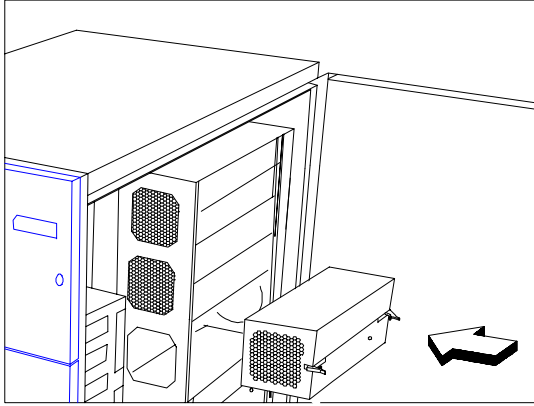

Figure C-3 Installing a Power Supply Module
5. Firmly hold the power supply and align it with a compartment on the power supply rack. Pressing the holding clips on the sides, push back the power supply until its edge connector completely fits into the slot on the power backplane. See Figure C-3.